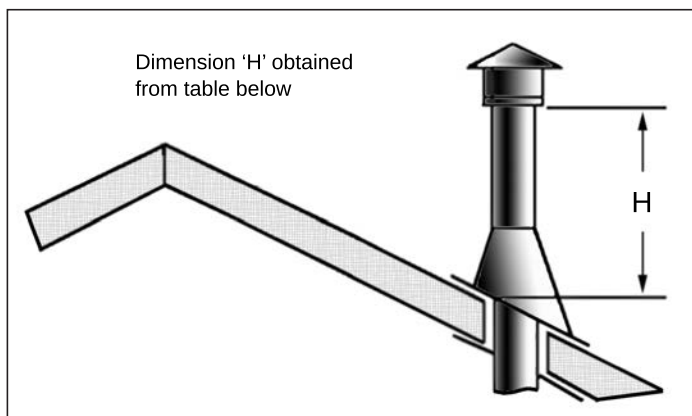

Figure 63: Height of Vertical Termination; Reference Table
- Step 8.** Continue to add pipe sections until the height of the vent cap meets the minimum code requirements. Refer to Figure 63 and Table 7. Note that for steep roof pitches, the vent height must be increased. In high wind conditions, nearby trees, adjoining roof lines, steep pitched roofs, and other similar factors can result in poor draft, or down drafting. In these cases, increasing the vent height may solve the problem.
Table 7: Minimum 'H' for Figure 63.